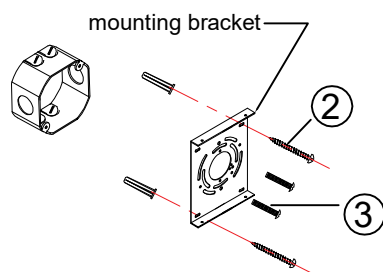

Fig.1
2. Feed the wires from wall through mounting bracket then attach mounting bracket to junction box and attach screws to wall anchors for added support (Fig.1).